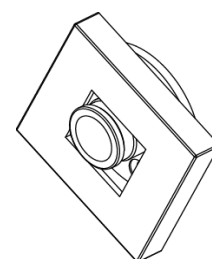

Fig. 5
7. Hang the wall bracket covers onto the wall brackets (see Fig. 5).